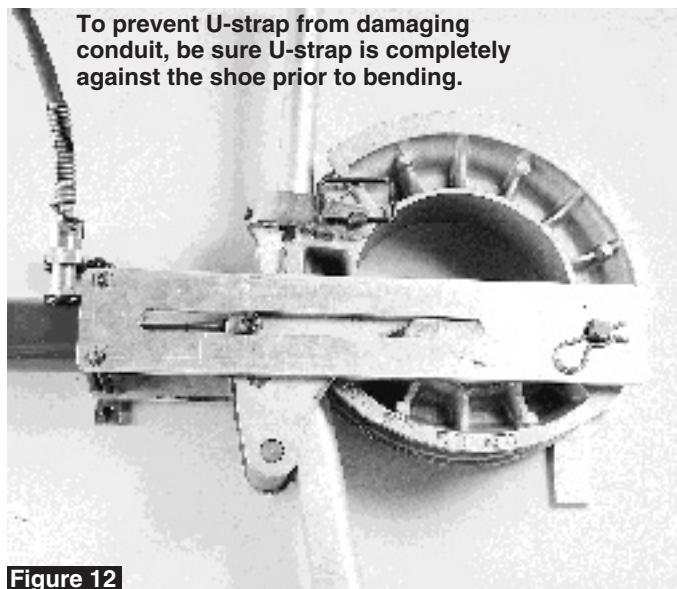

Figure 12
- You are now ready to bend pipe. Actuate the cylinder, and observe that the follow bar moves together with the pipe as it passes through the roller assembly (see Figure 12). If the follow bar does not move, it has not been inserted far enough. Immediately retract the cylinder plunger and re-seat the follow bar so that it will move with the pipe.